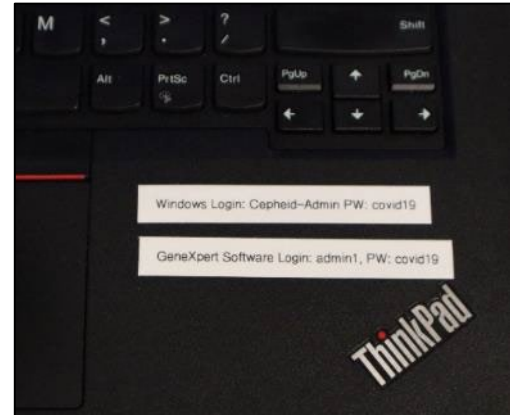

Figure 5. Location of login credentials on the
- D. Login credentials for both the laptop and GeneXpert Dx software are visible on a sticker present under the laptop's keyboard (Figure 5.).